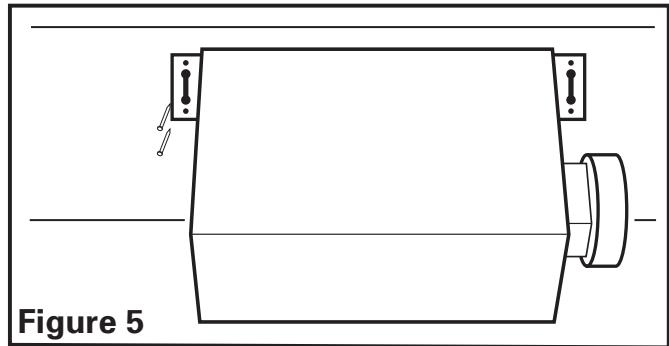

Figure 5
- 1a. **Mounting Tab Installation:** Line up housing so that it will be flush with the finished ceiling. Position the fan so that the tabs rest flat against the joist and secure with screws or nails (not provided) to ensure proper installation (Figure 5).
1a. **Mounting Tab Installation:** Position housing against the joist and trace an outline of the housing onto the ceiling material (**Figure 7**). Set housing aside and cut opening, being careful not to cut or damage any electrical or other hidden utilities. Place housing next to the joist and insure that it is flush with the finished ceiling. Secure with screws or nails (not provided) to the joists (**Figure 5**).